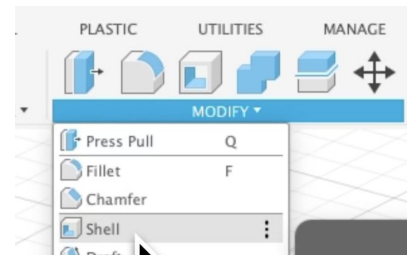

Figure 1.1
- To use the '**Shell**' tool, go to **Modify** → **Shell** (see Figure 1.1). A dialog box will appear prompting you to select a face or body. The selection you make will determine where the void is created.